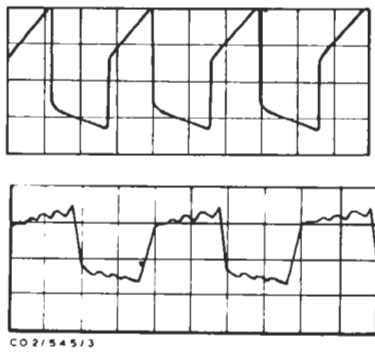

Fig. 2 Waveforms at Test Points in the CO2/545
| $\div 10$      | 500 kHz, approximately 2 volts p-p, waveform as shown in Fig. 2 (a).     |
| $\div 64$      | 70.3125 kHz, approximately 3 volts p-p, waveform as shown in Fig. 2 (b). |
6. Transfer the oscilloscope probe to the  $\div 10$  monitor socket and check for a waveform similar to that shown in Fig. 2 (a).
10. Check at the  $\pm 64$  monitor socket for a waveform similar to that shown in Fig. 2 (b).